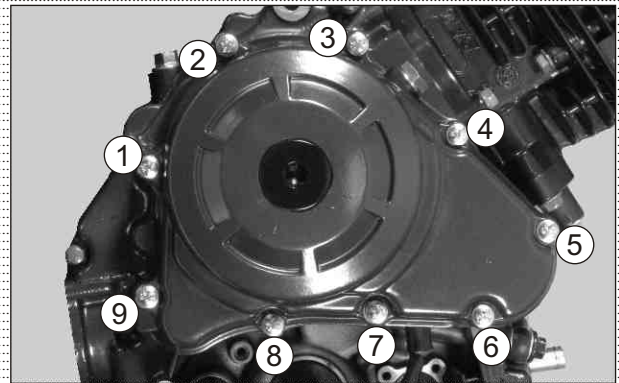

Fig. 3.51
- Remove hexagonal flange bolts (M6x40 - 9 nos) from the cover magneto mounting. (Fig. 3.51)